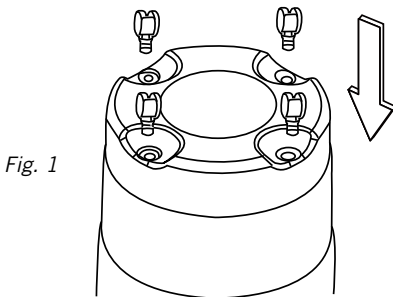

Fig. 1
- Turn the collection tank upside down and insert the four casters **5** into the slots on the collection tank. The casters **5** should snap into place; verify that they are mounted correctly. **Fig. 1**.